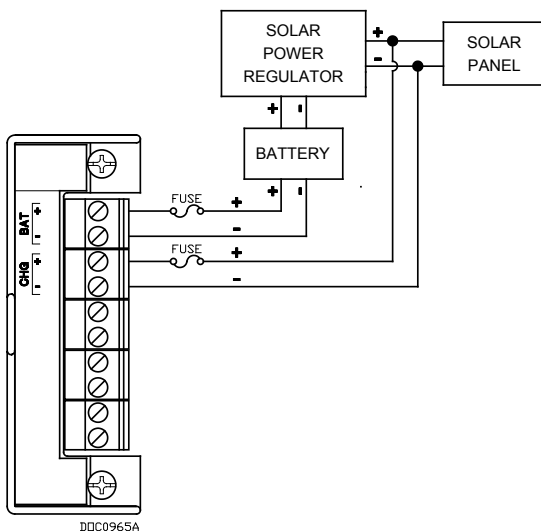

Figure 6. 12 V dc Power Supply and CHG+ / CHG- Wiring
- If you are monitoring an external charge voltage (12-V dc Power Input Module only), wire the CHG+ and CHG- terminal block connector. Refer to Figure 6.